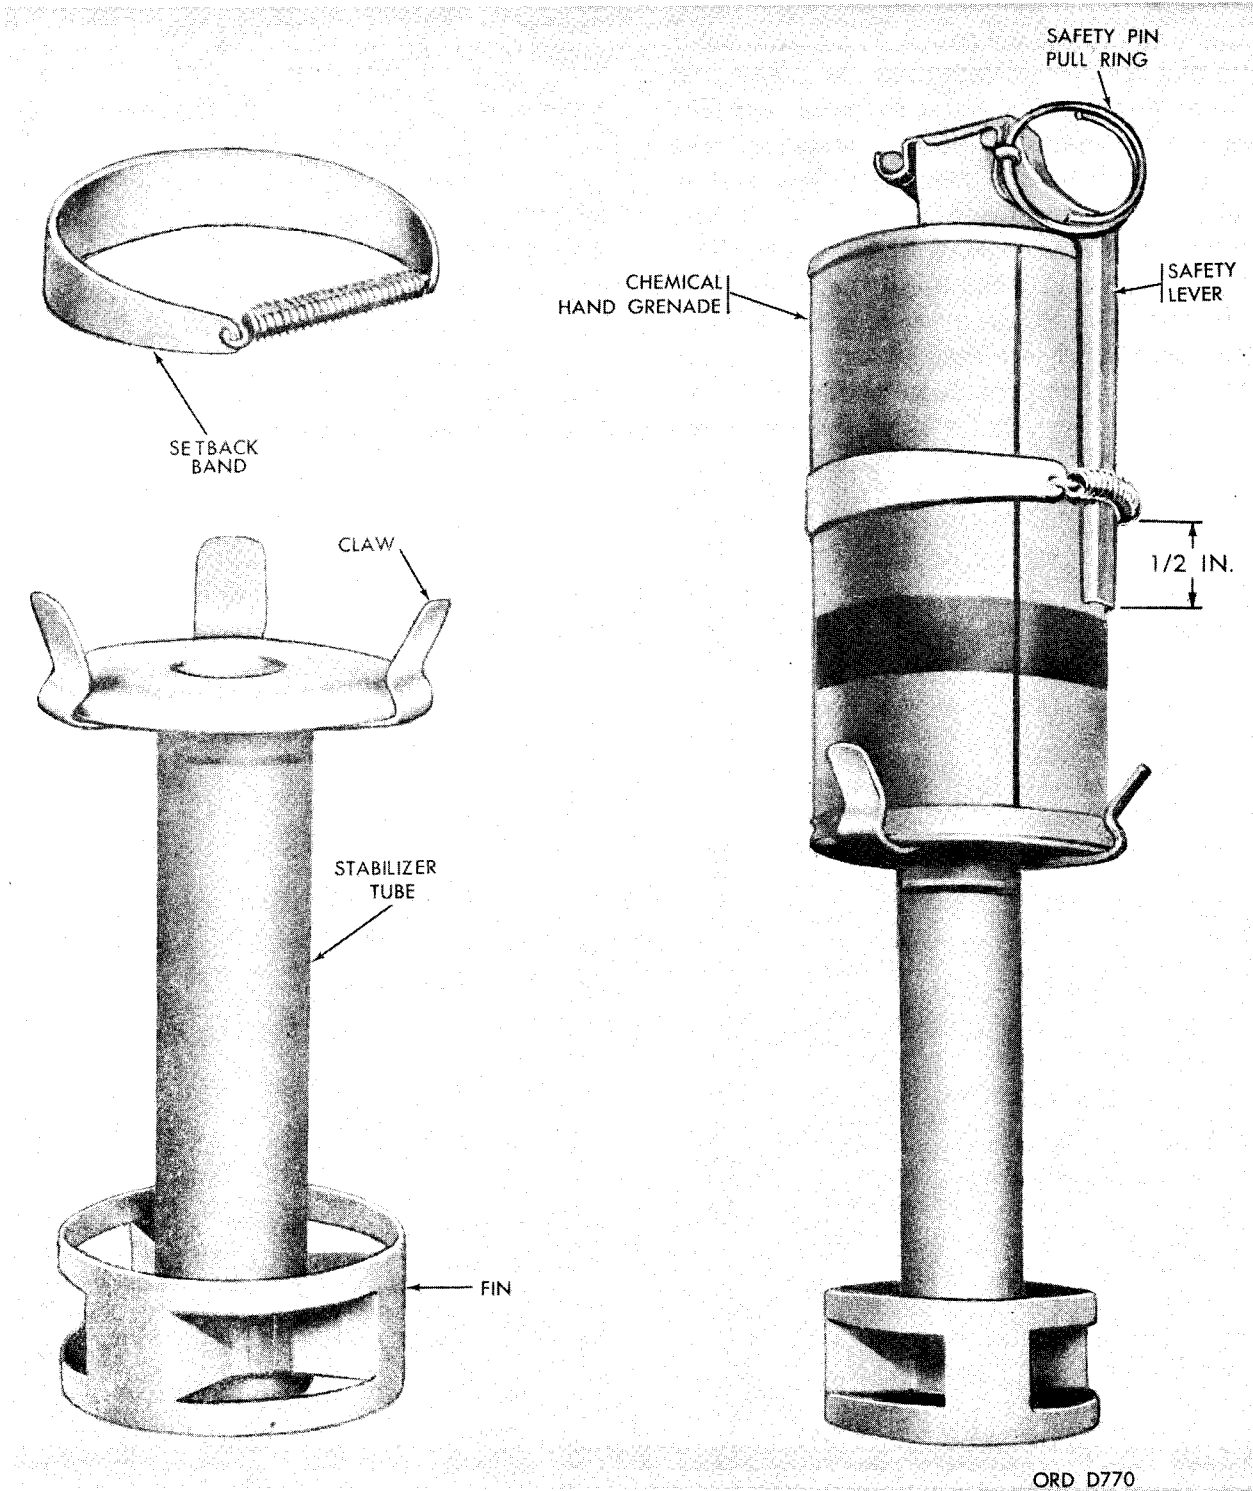

Figure 3-9. Grenade projection adapter M2A1 w/chemical hand grenade.
a. General. Grenade Projection Adapters M2-Series adapt cylindrical hand grenades for launching from rifles. Two different models are available: the M2 and the M2A1 (fig. 3-9).